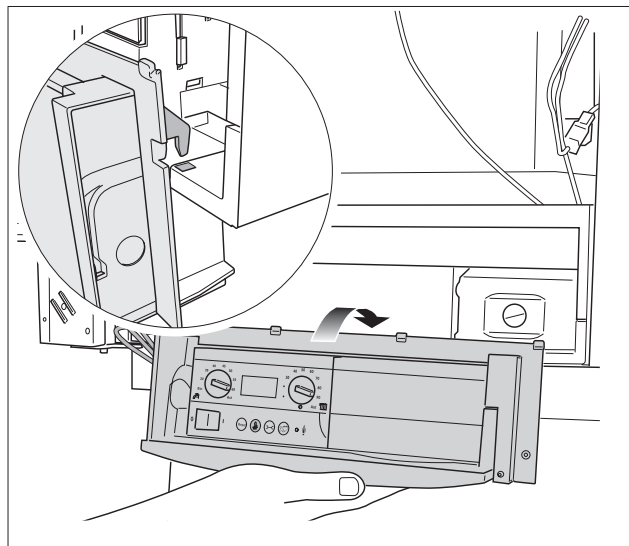

fig. 138 Hanging the control panel from the boiler frame
- Use the two hooks to hang the control panel from the boiler (fig. 138).